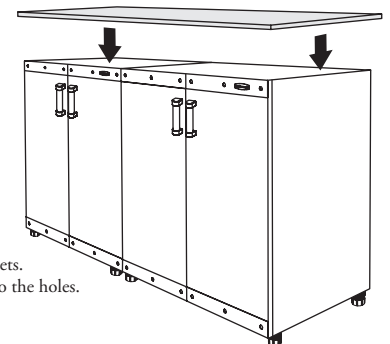

Figure 1
- Use 1/8" drill bit. Drill through cabinet tops four times equally spaced. Refer to Figure 1